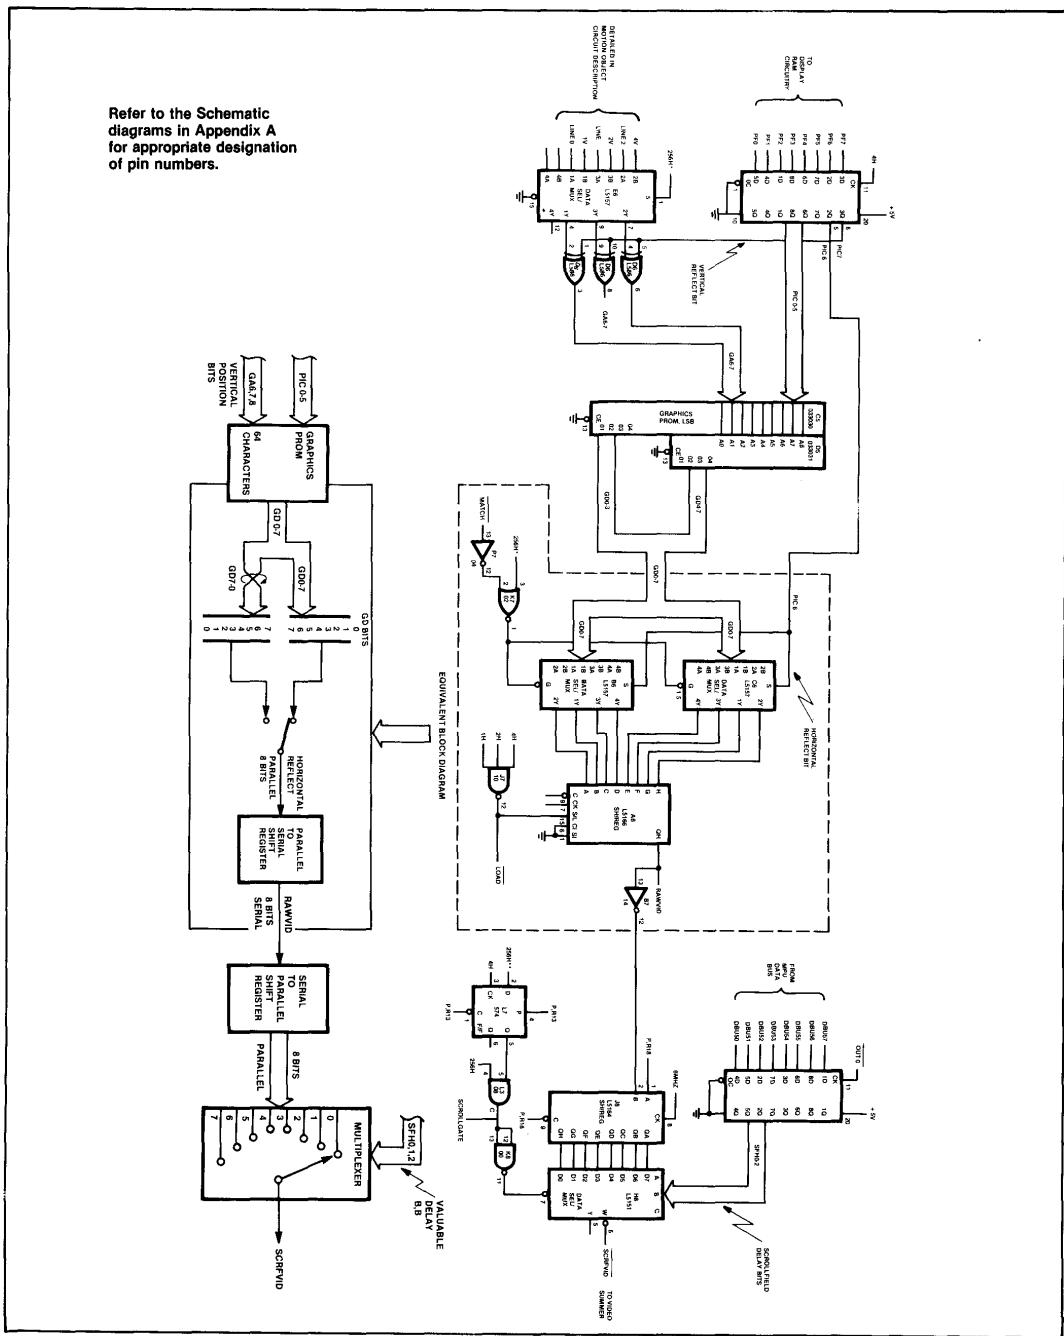
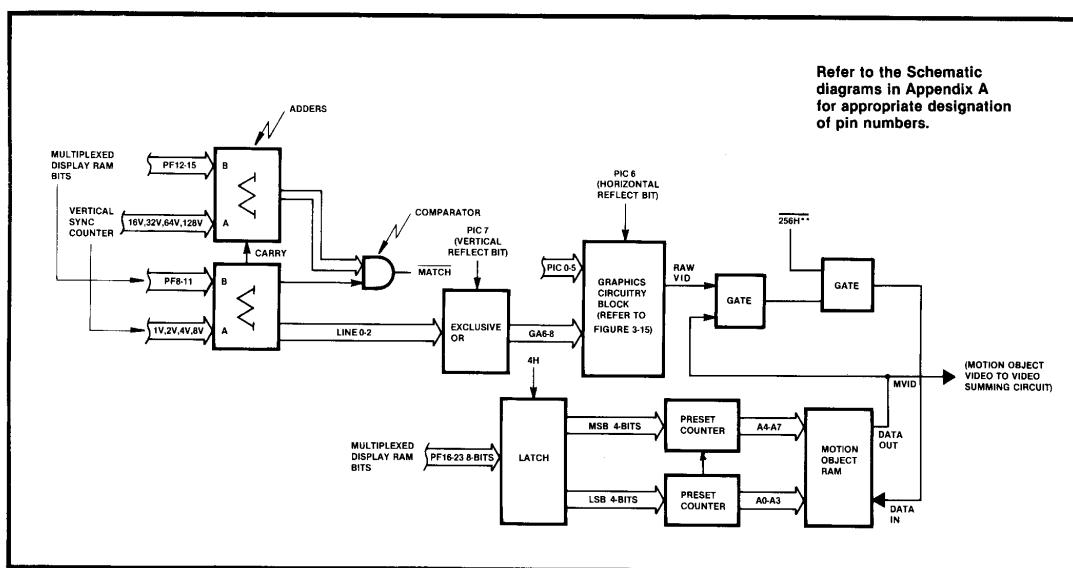

Figure 3-15 Scrollfield Generator Block Diagram and Simplified Schematic Diagram
Figure 3-17 Motion Object Generator Block Diagram
(See Figure 3-15 and 3-16)
The scrollfield generator generates the scrolling playfield video. The video is actually generated by the data stored in the graphics PROM comprised of PROM devices C5 and D5. See Figure 3-15. This PROM video information is addressed by data from the playfield display RAM.
(See Figure 3-17)
The motion object generator produces characters such as the football and the Xs and Os. These motion objects are generated by the same circuitry found in the scrollfield generator (see Figure 3-15), while the actual graphics are permanently stored in PROMs C5 and D5 (see Figure 3-17). This circuitry is used for motion objects when 256H is low, and for scrollfield when 256H is high. The RAWVID signal from the parallel to serial shift register A6 is connected to OR gate K3. This gate ORs the raw video (RAWVID) from the scrollfield circuitry and the data out (DO) from the RAM K6 which was cleared while the information on that line was being read out. The procedure is as follows for each motion object: